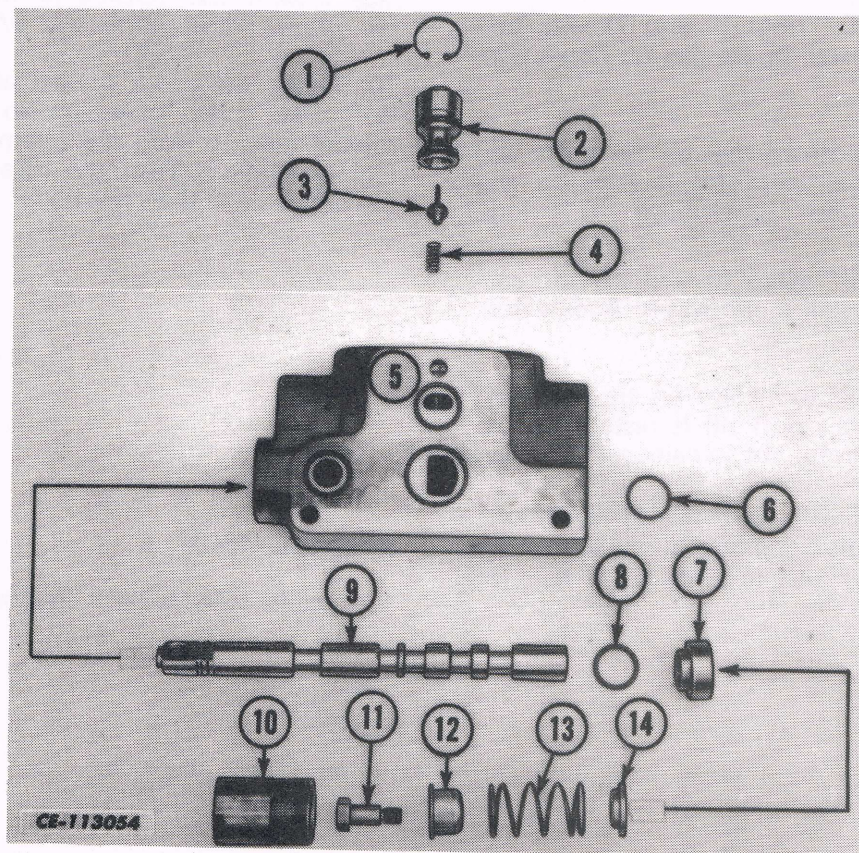

Fig. 5
DISASSEMBLY (Refer to Fig. 5)
3. Install the spool into the valve body. Refer to Fig. 5 for correct spring end "O" ring installation.